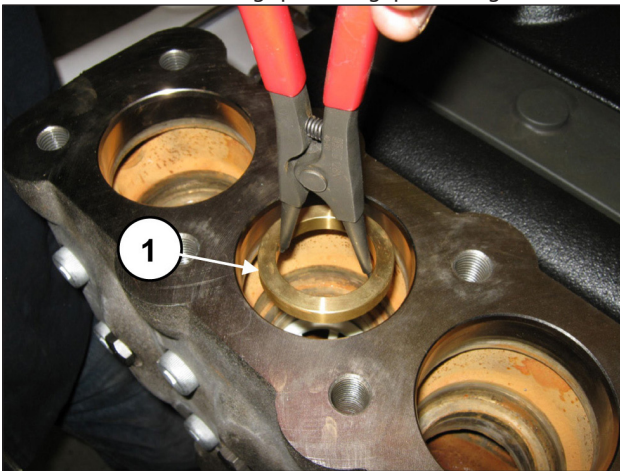

Fig. 105
Remove the valve housing spacer ring (pos. ①, Fig. 105).